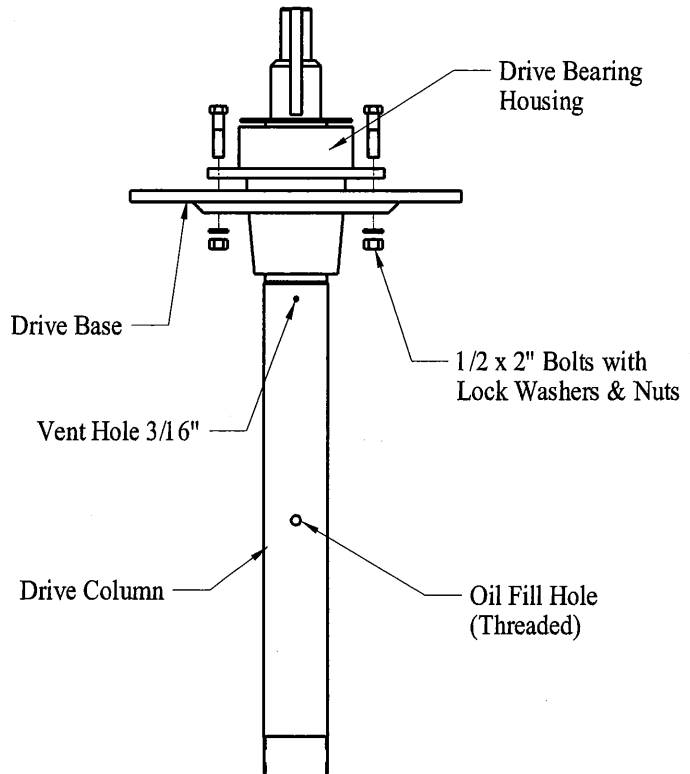

FIGURE 6.
14. Locate the drive column (with two holes) and thread the drive bearing assembly onto the end with the 3/16" vent hole. See Figure 6.